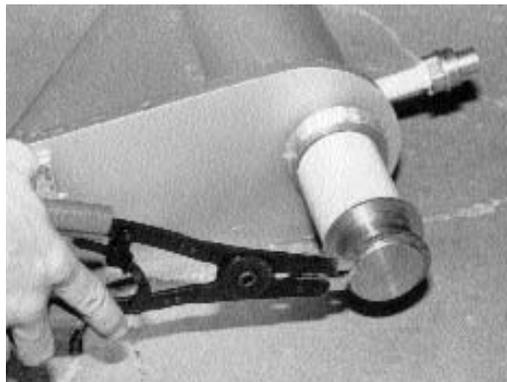

Figure 33
1. Remove retaining ring and two washers from tower pivot post. (See Figure 33.) Leave one washer on pin.